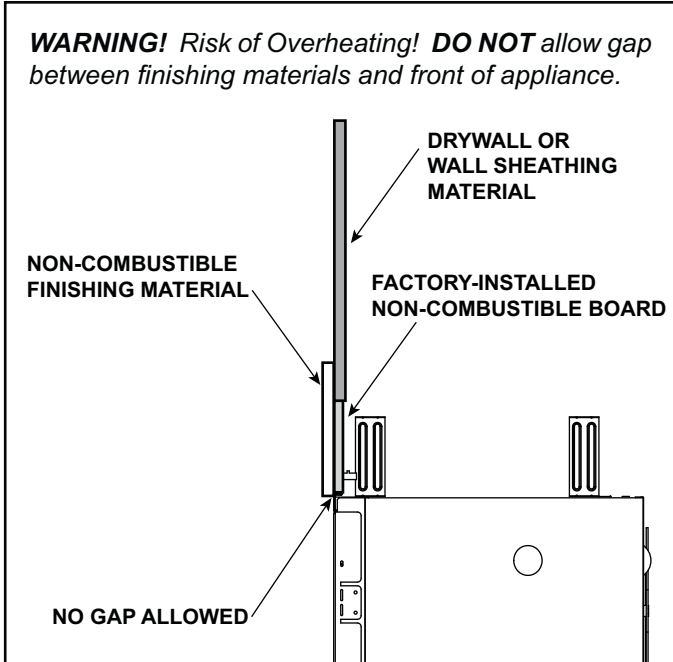

Figure 10.1 Finishing Material Installed
- Seal gaps between the finished wall and appliance top and sides using a 300 °F minimum sealant. Refer to Figure 10.1 and Figure 10.2.
- Finishing materials must be installed with no gaps in order to prevent the escape of heat between the finishing material and the wall. See Figure 10.1.